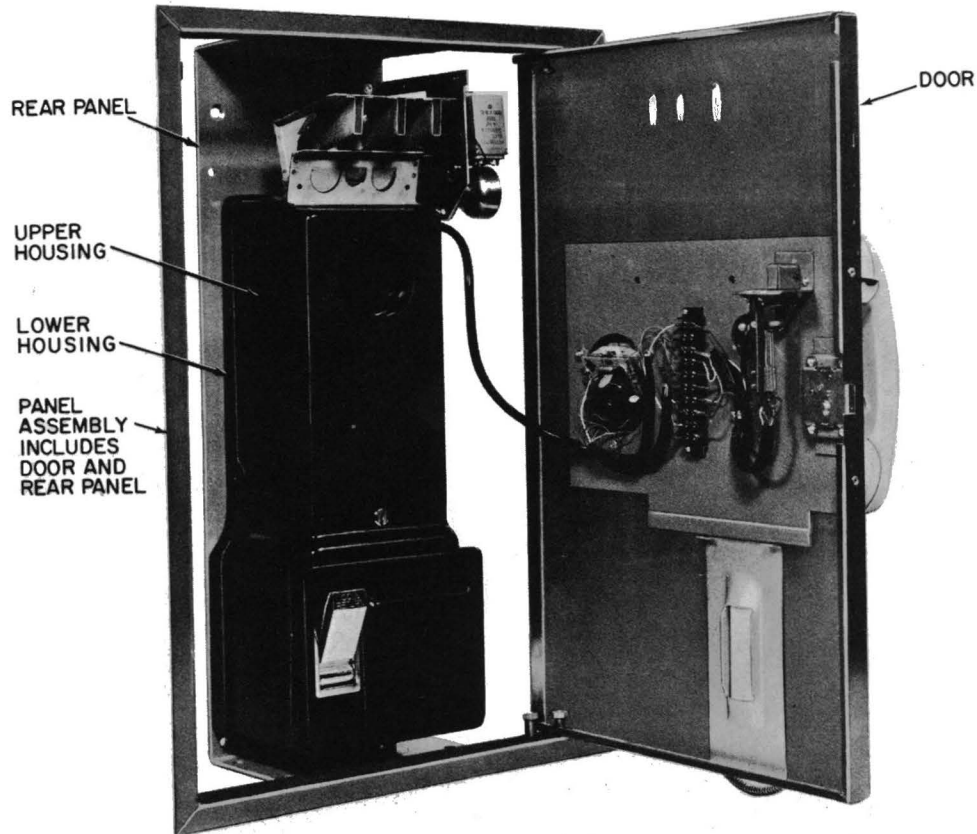
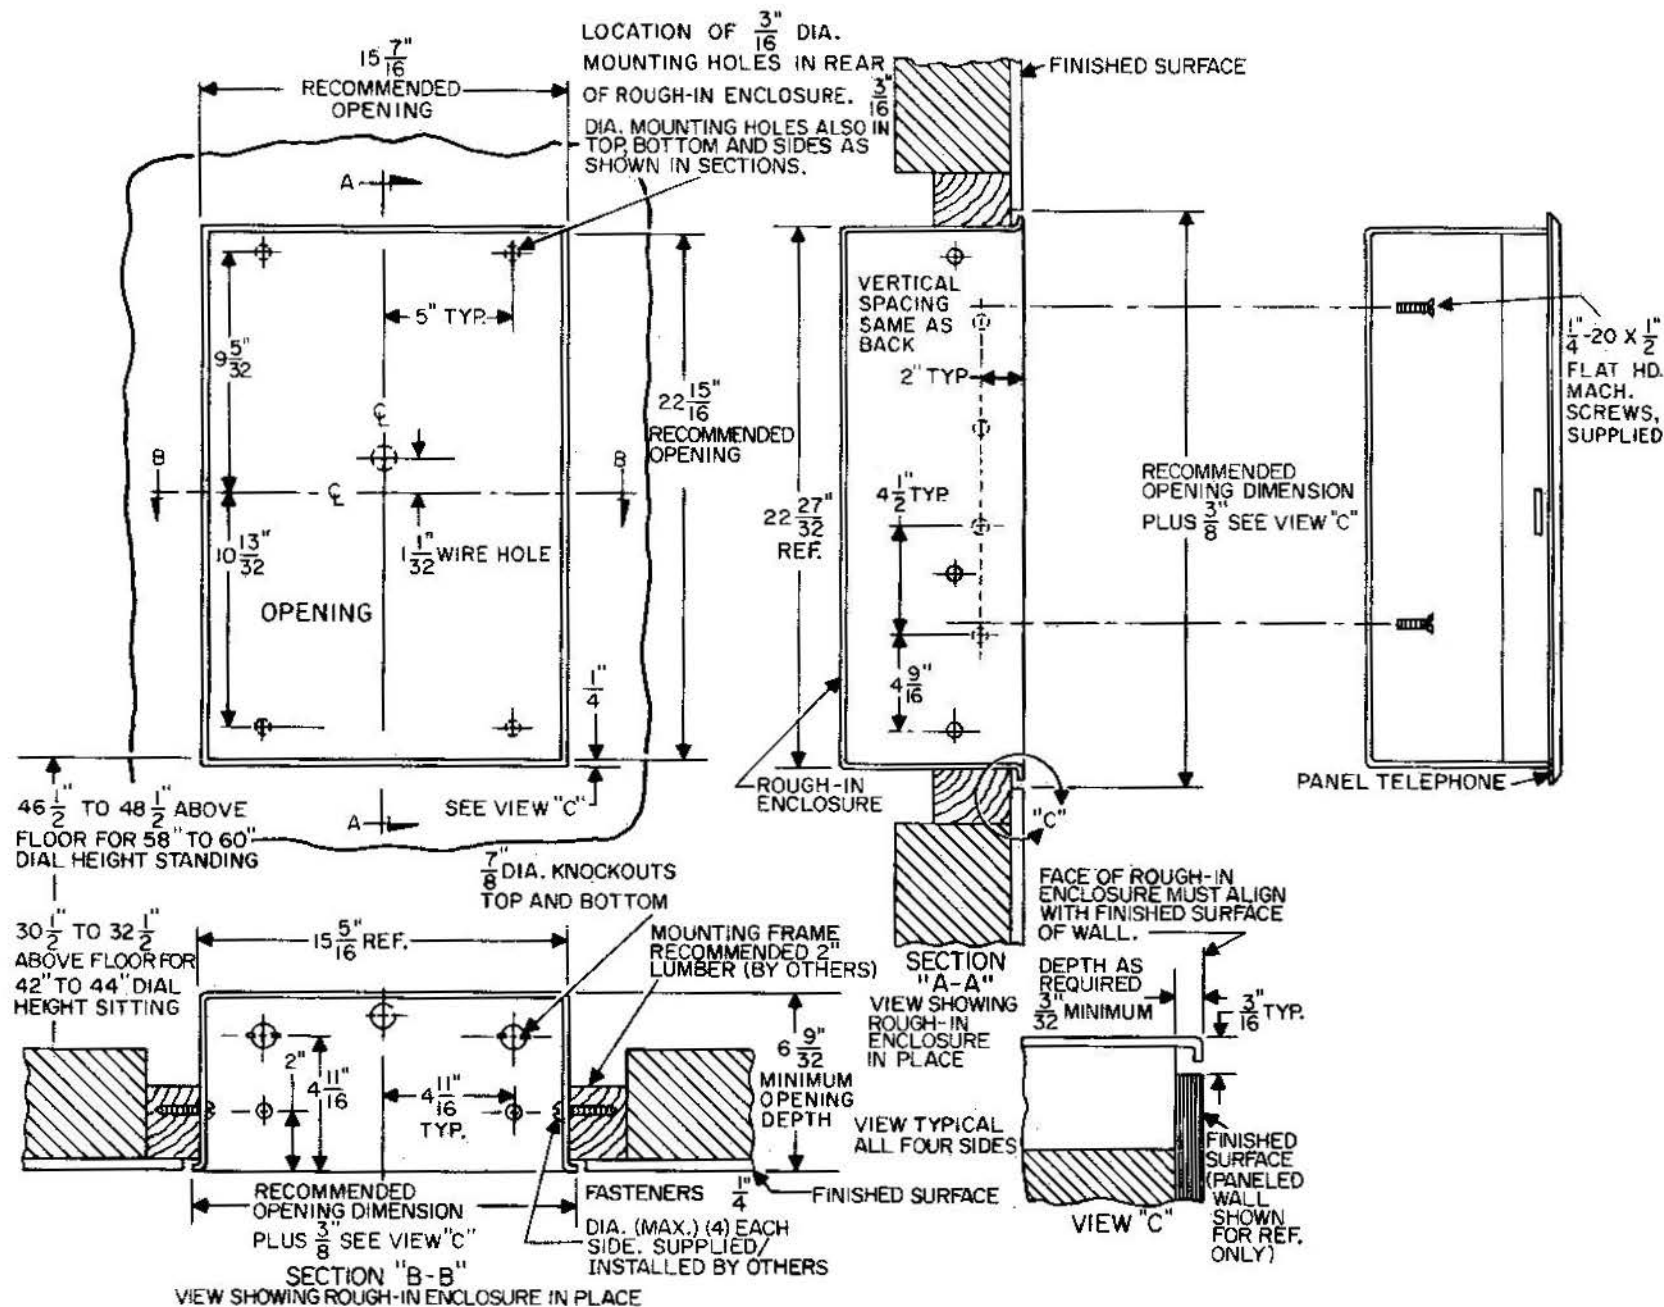

Figure 2. Coin Telephone and Panel Mounted Components.
Figure 4. Typical Installation, Wall-Recess Enclosure.
- (1) Construct a wood-frame opening in the wall as shown in Figure 4.
- (2) Extend the station wires and #14 AWG ground wire to the enclosure. The wires can be extended through conduit, if so desired or can be exposed within the wall. The enclosures are equipped with conduit knockout holes at the top and the bottom of the enclosure. The wires can also be extended to the telephone set through the wire hole which is located in the back of the enclosure.
- (3) Fasten the enclosure to the frame with applicable fasteners.
- (4) Unlock and open the door of the panel assembly (Figure 2) of the panel coin telephone.